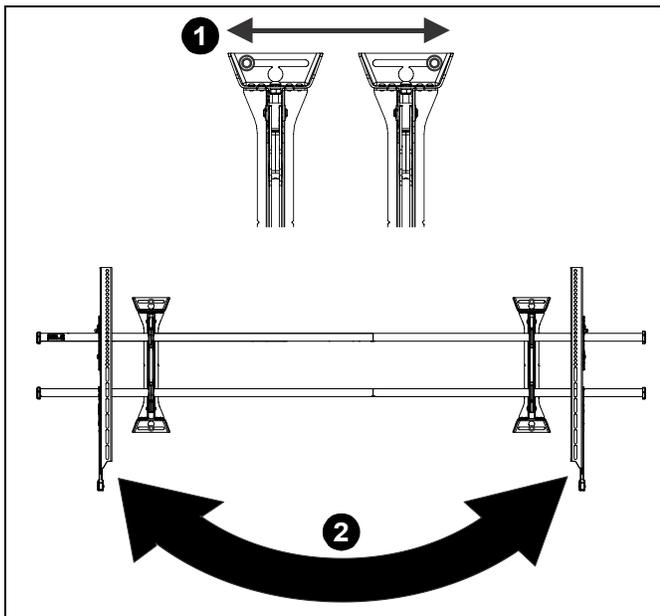

Figure 10
1. The wall brackets may be adjusted side to side at the point of attachment. (See Figure 10)
2. The location of the left and right interface brackets (W and X) may be switched. (See Figure 10)